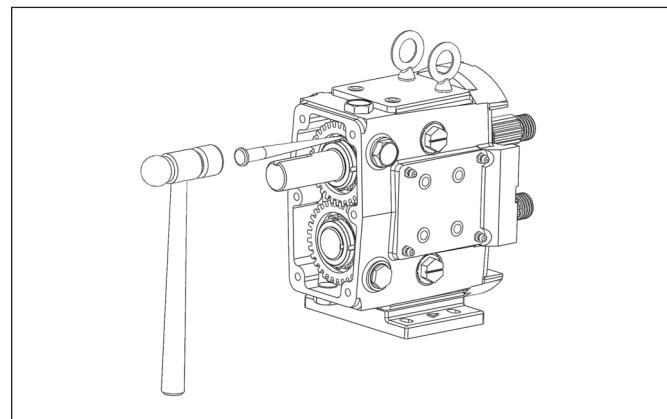
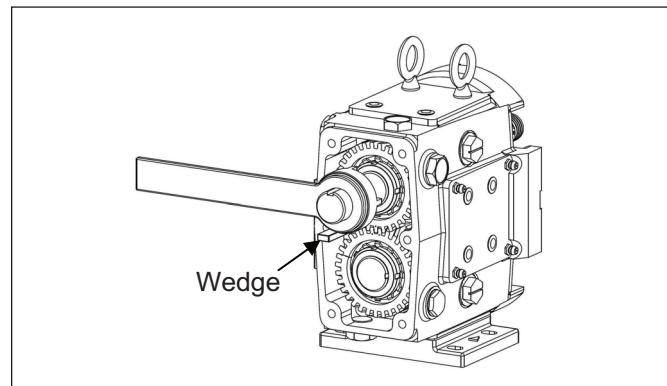

Figure 39. Bending Tabs on Lock Washers
Figure 40. Removing Lock Washers
2. Using a hammer and a punch, bend the tabs straight on the lock washers (*Figure 39*). Use a wedge (wood or plastic) to keep the shafts from turning while removing the lock nuts (*Figure 40*). Using a spanner wrench or the nut removal tool (available from Ampco), remove the gear lock nuts. Slowly remove the gears from the shafts. Remove the gear keys and gear spacers from the shafts.